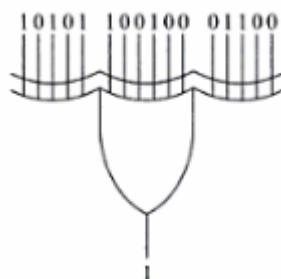

Figure 4.33: Exclusive OR gate with 16 inputs
- XOR gates can be used for checking the parity of a binary number because they produce an output 1 when the input has an odd number of 1s. Therefore, an even parity input to an exclusive OR gate produces a low output, while an odd parity input produces a high output (Figure: 4.33).